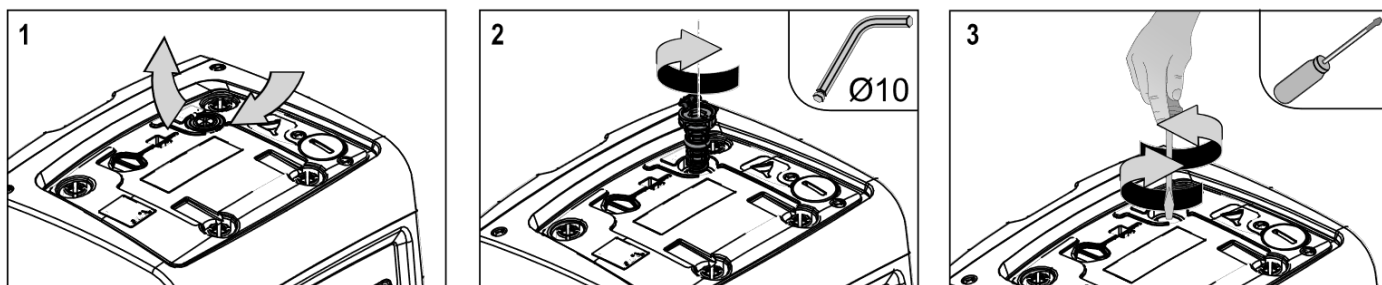

Figure 23
2. lift the rubber cover of the motor shaft access cap (*Fig. 23*);
3. using a 10mm hexagonal key, remove the motor shaft access cap (*Fig. 23*);
4. insert a straight tip screwdriver in the groove on the motor shaft and manoeuvre, turning in 2 directions (*Fig. 23*);